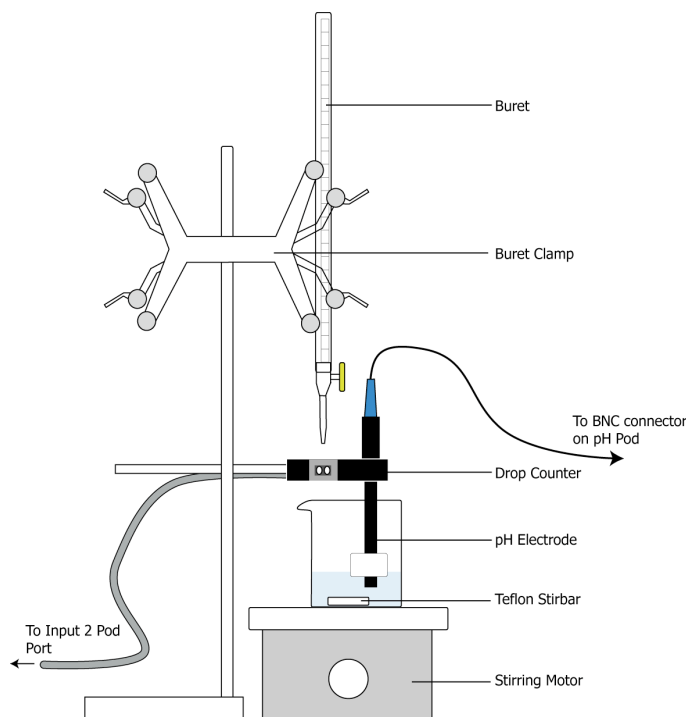

Figure 2. Glassware set up to perform the exercises in this experiment.
1. Clamp the Drop Counter to your ring stand and position it so it is above the stir motor (Figure 2).
7. Mount a 25 mL buret in the buret clamp on your ring stand (Figure 2).